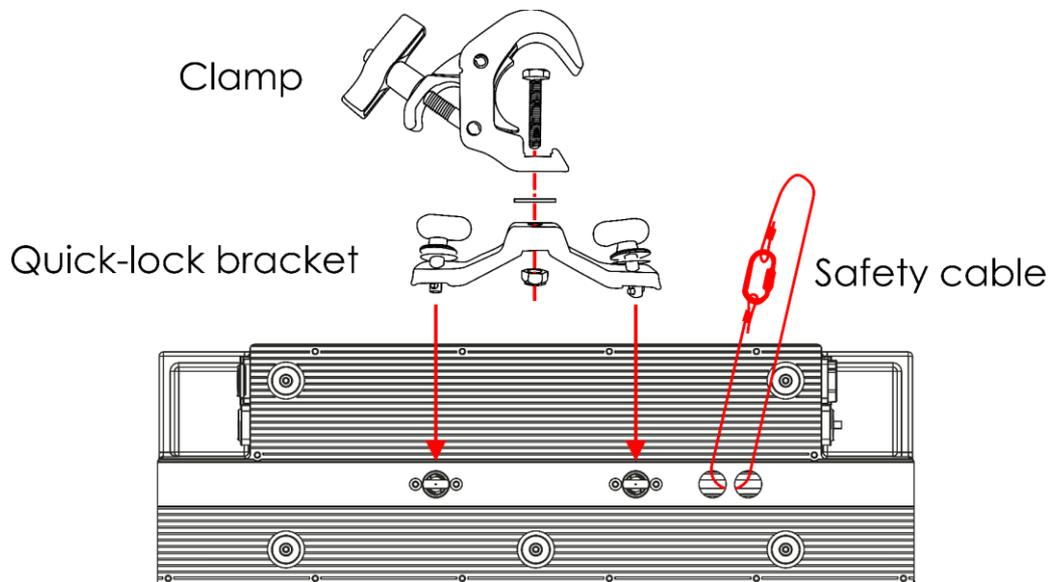

Fig. 06
- 01) Fasten the quick-lock bracket (supplied with the device) on the **mounting openings for the quick-lock bracket (10)** as shown in Fig. 06.
- 02) Install a clamp, as shown in Fig. 06. Make sure that you use clamps suitable for attaching the device to the supporting structure and that the device cannot move freely.
- 03) Secure the device with a secondary suspension, for example a safety cable. Make sure that the secondary suspension can hold 10 times the weight of the device. If possible, the secondary suspension should be attached to a supporting structure independent of the primary suspension. Put the safety cable through the **safety eye (09)**, as shown in Fig. 06. You can use the safety cable supplied with the device.